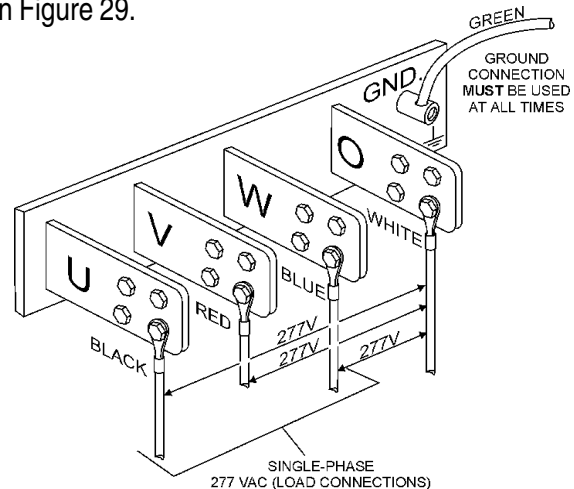

Figure 29. UVWO Terminal Lugs 1Ø-277V Connections
2. Connect the load wires to the UVWO terminals as shown in Figure 29.